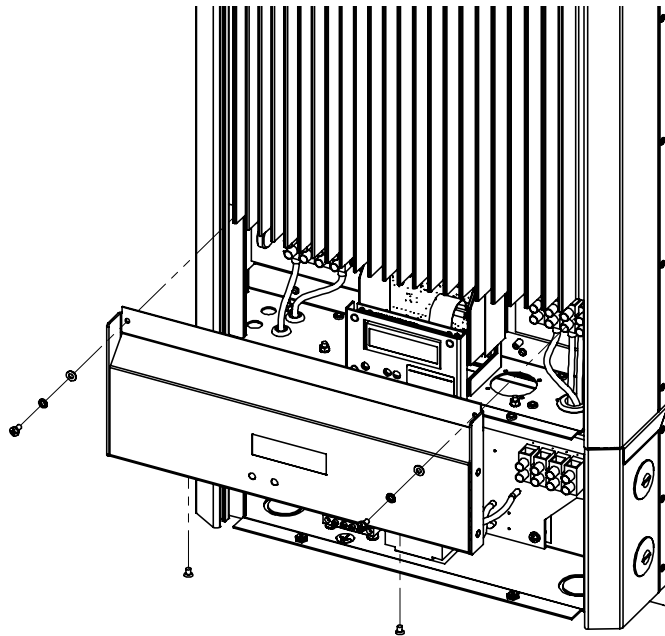

Figure 6-2 Display Front Panel Assembly
2. Remove the display front panel cover (see Figure 6-2), located below the heat sink. Use a Phillips screwdriver to remove the two external panhead screws and washers and the two screws along the bottom edge of the cover.
2. Remove the wiring/disconnect box cover and the display front panel cover (see Figure 3-3 on page 3–5 and Figure 6-2 on page 6–5).